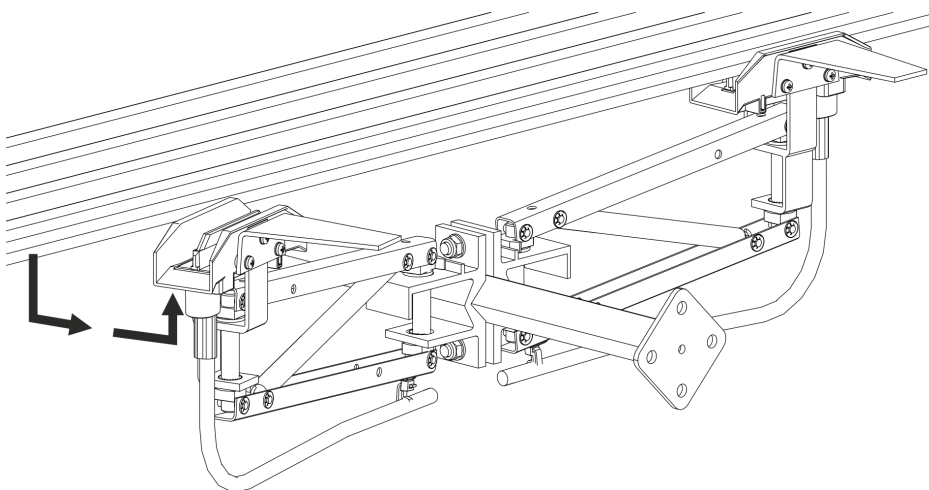

Fig. 131: Remove the current collector from the conductor rail
- Pull the current collector down in the spring-loaded state and unscrew it from the side in order to be able to remove the current collector from the conductor rail (see Fig.131). If there are more than three poles, the current collector may need to be removed from the carrier.